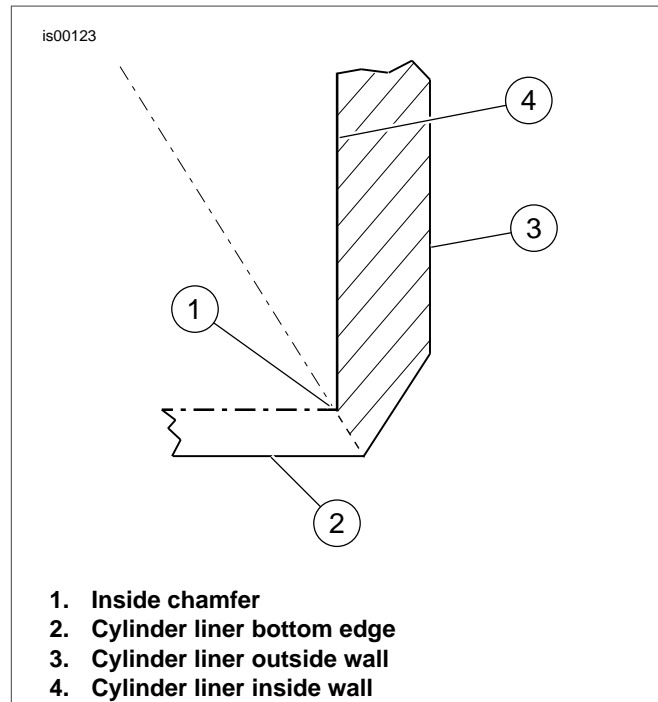

Figure 2. Inside Chamfer and Bottom Edge of Cylinder Liner
- See Figure 2. After machining and honing, chamfer the bottom inner edge (1) of the cylinder liner. The chamfer provides a beveled surface for easier installation of the cylinder over the piston rings. Break leading edge of liner to a flat surface. The bottom edge of the liner (2) will be somewhat sharp after machining. This sharp edge could easily cause damage during installation of the cylinder.